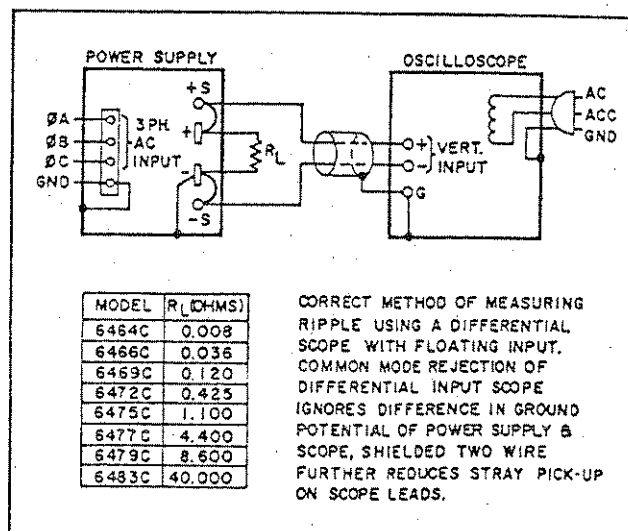
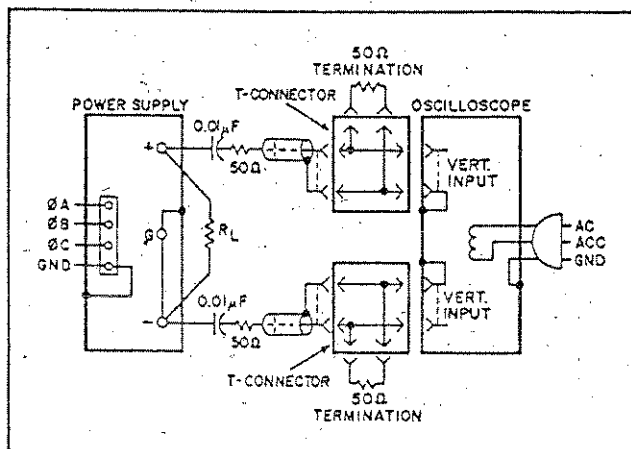

Figure 5-2. Ripple Test Setup
Figure 5-3. Noise Spike Measurement Test Setup
- Connect load resistor ( $R_L$ ) indicated in Figure 5-2 across output busbars.
5-17 Figure 5-2 shows the recommended method of measuring ripple using a differential scope. If desired, two single-conductor shielded cables may be substituted in place of the shielded two-wire cable with equal success. Because of its common mode rejection, a differential oscilloscope displays only the difference in signal between its two vertical input terminals, thus ignoring the effects of any common mode signal produced by the difference in the ac potential between the power supply case and scope case. Before using a differential input scope in this manner, however, it is imperative that the common mode rejection capability of the scope be verified by shorting together its two input leads at the power supply and observing the trace on the CRT. If this trace is a straight line, then the scope is properly ignoring any common mode signal present. If this trace is not a straight line, then the scope is not rejecting the ground signal and must be realigned in accordance with the manufacturer's instructions until proper common mode rejection is attained.
- a. Connect oscilloscope or rms voltmeter as shown in Figure 5-2.
**5-21** The test setup illustrated in Figure 5-2 is generally not acceptable for measuring spikes:
1. As shown in Figure 5-3, two coax cables must be substituted for the shielded two-wire cable.
**5-22** The circuit of Figure 5-3 can also be used for the normal measurement of low frequency ripple; simply remove the four terminating resistors and the blocking capacitors and substitute a higher gain vertical plug-in in place of the wide-band plug-in required for spike measurements. Notice that with these changes, Figure 5-3 becomes a two-cable version of Figure 5-2.